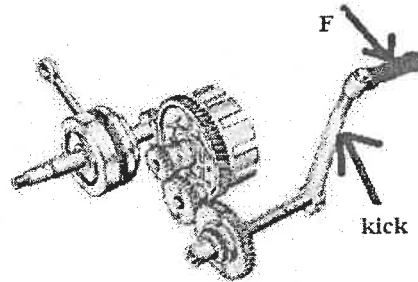

Fig.04
1. Write equations for (1) Torsion (2) Strain Energy using standard notations.
3. In an motorcycle kick in Fig. 04, force of $F=300\text{ N}$ is applied, length of kick is 200 mm , find out the torque produced in the shaft attached at kick. (Answer in N-m only).